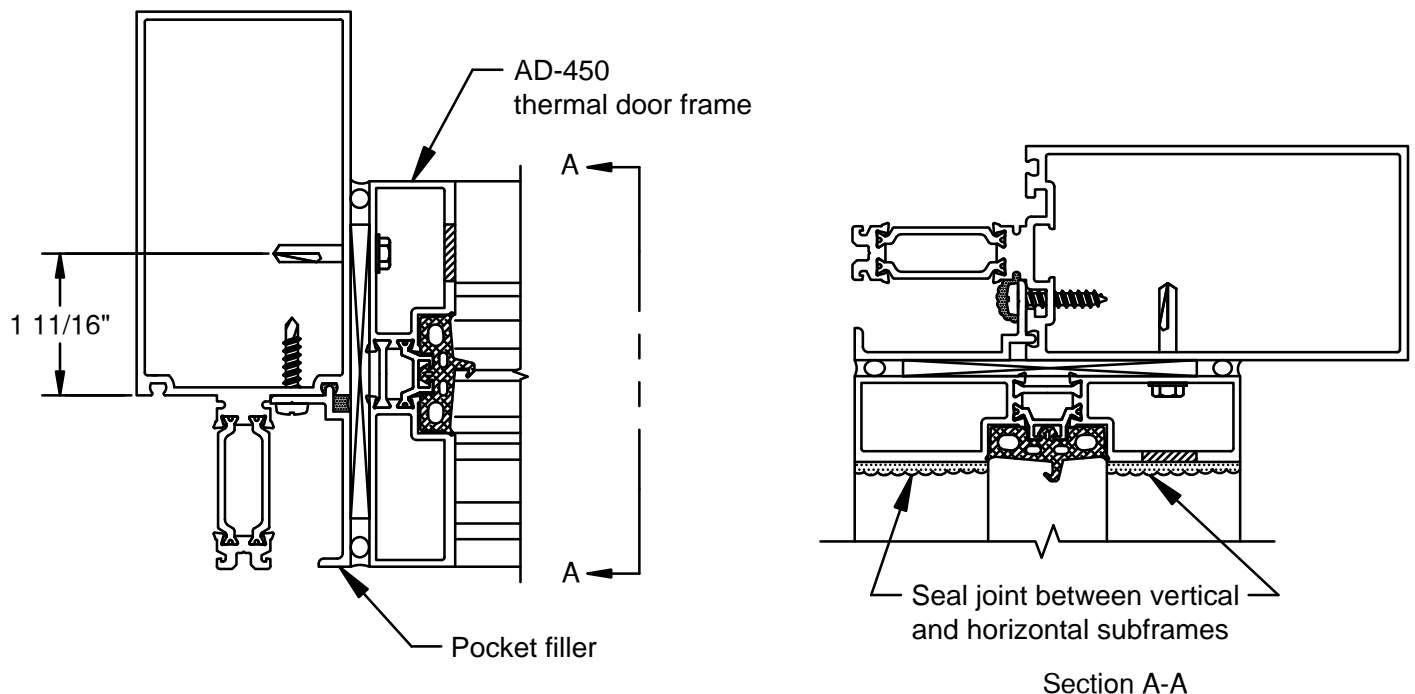

FIGURE 24
C.2.2 Install pocket filler onto curtain wall mullion. SEE FIGURE 24.